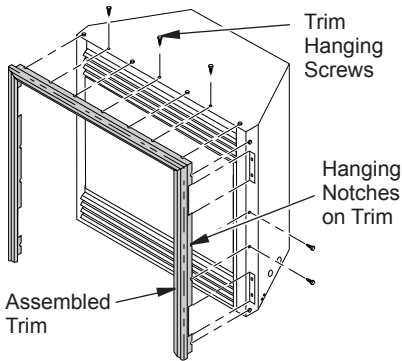

Figure 7 - Attaching Perimeter Trim to Fireplace
- Tighten trim hanging screws (#10 x 6.25 shoulder) into holes in cabinets. Place the assembled trim onto fireplace cabinet. Align hanging notches on trim with hanging screws on side of fireplace (see Figure 7). Push trim firmly into place, sliding hanging notches over hanging screws.
10. Install trim after final finishing and/or painting of wall (see Figure 7, page 10).